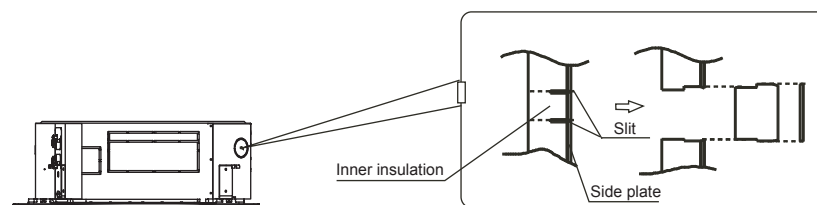

Fig. 5-4
- Cut the inner insulation of the hole portion with a cutter. (refer to fig.5-4)